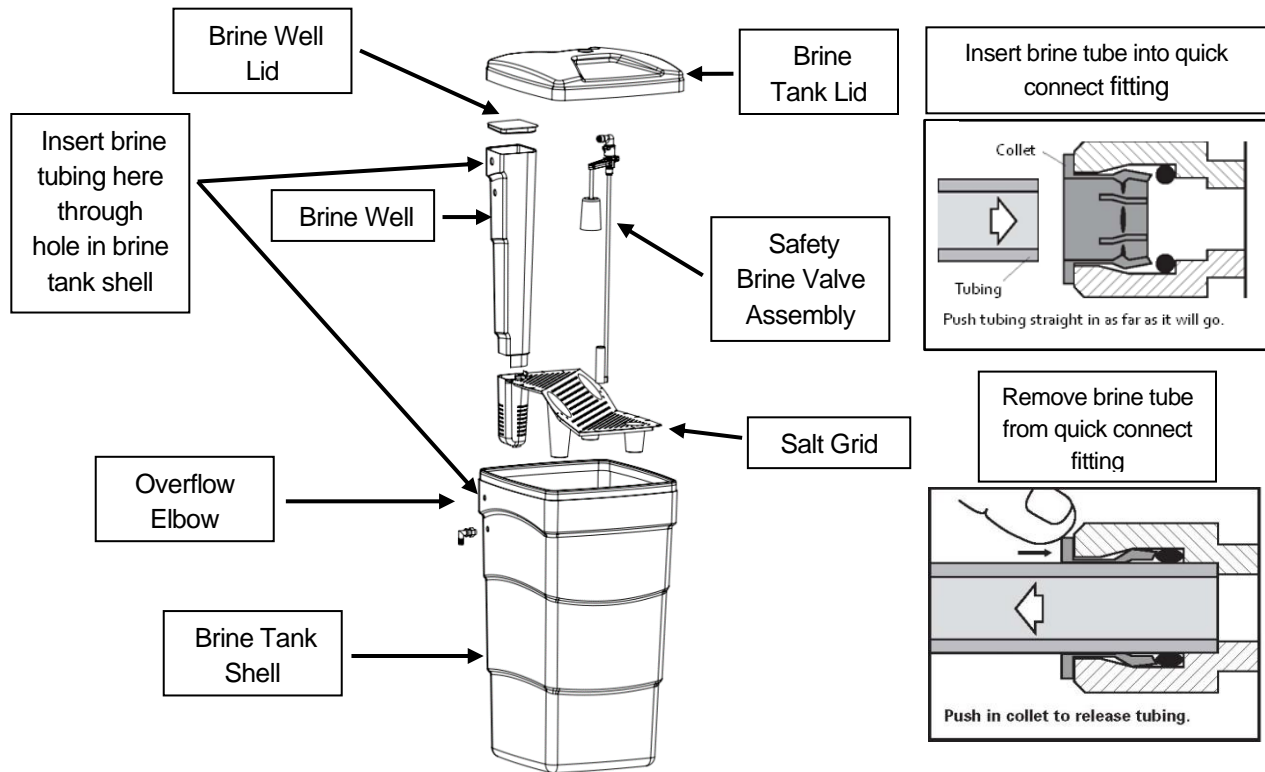

FIGURE 3: Brine Tank Components
STEP 10: With the bypass valve handles in the bypass position (Figure 3, Page 4), turn on water supply. Turn the inlet bypass valve handle to the diagnostic position (Figure 4, Page 4) and allow the online tank to pressurize. NOTE: the INLET and OUTLET knobs turn *clockwise* to close the port to the softener and *counterclockwise* to open the port to the softener. Check for leaks and correct as needed. **Return the bypass valve handles to the bypass position.**